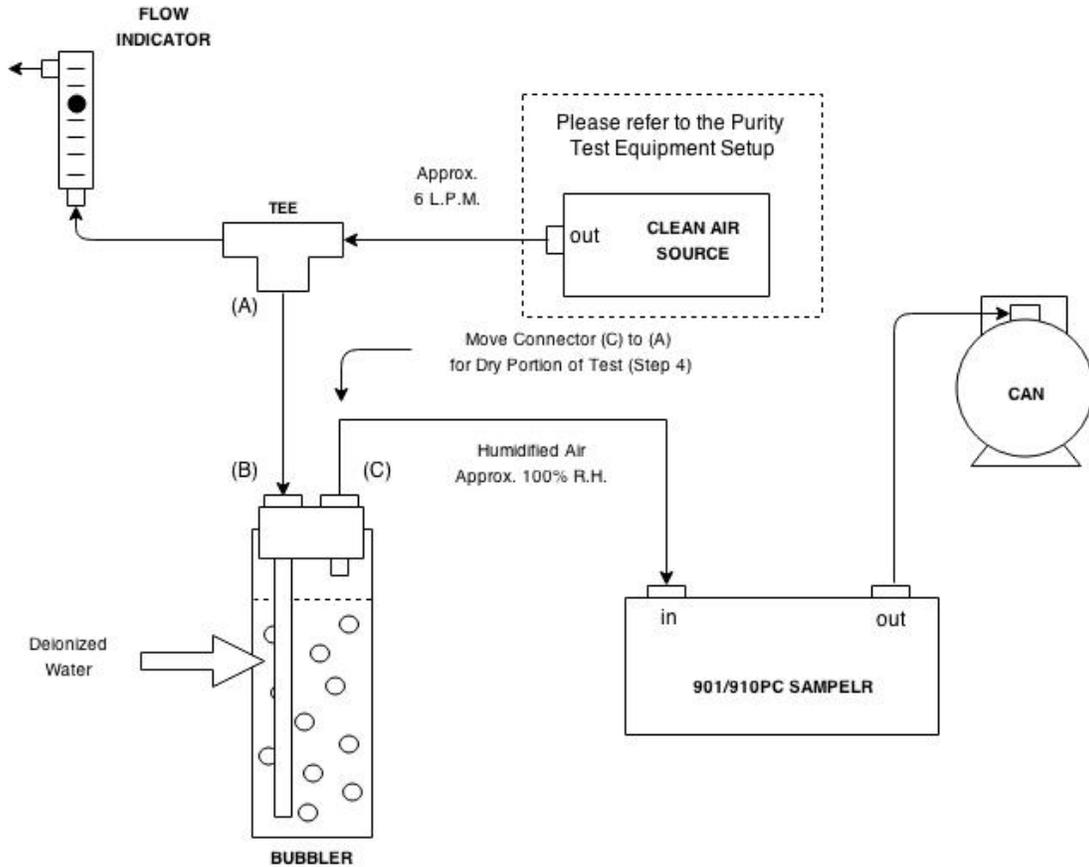

Figure 7.3. Sampler Cleaning w/ Flow Schematic Diagram
1. Follow the flow schematic diagram (figure 7.3), connect the bubbler, flow meter, connection tee and clean air source using Teflon tubing. Fill the bubbler approximately 3/4 full with deionized water and secure to instrument rack. Connect bubbler inlet (B) to the connection tee output (A); this line should end approximately 1" from the bottom of the bubbler. Then, connect bubbler output (C) to the sample input of the canister sampler. (See diagram for complete flow schematic).
4. After the 72 hours, disconnect the bubbler output (C) and connect the sampler inlet directly to the connection tee output (A).